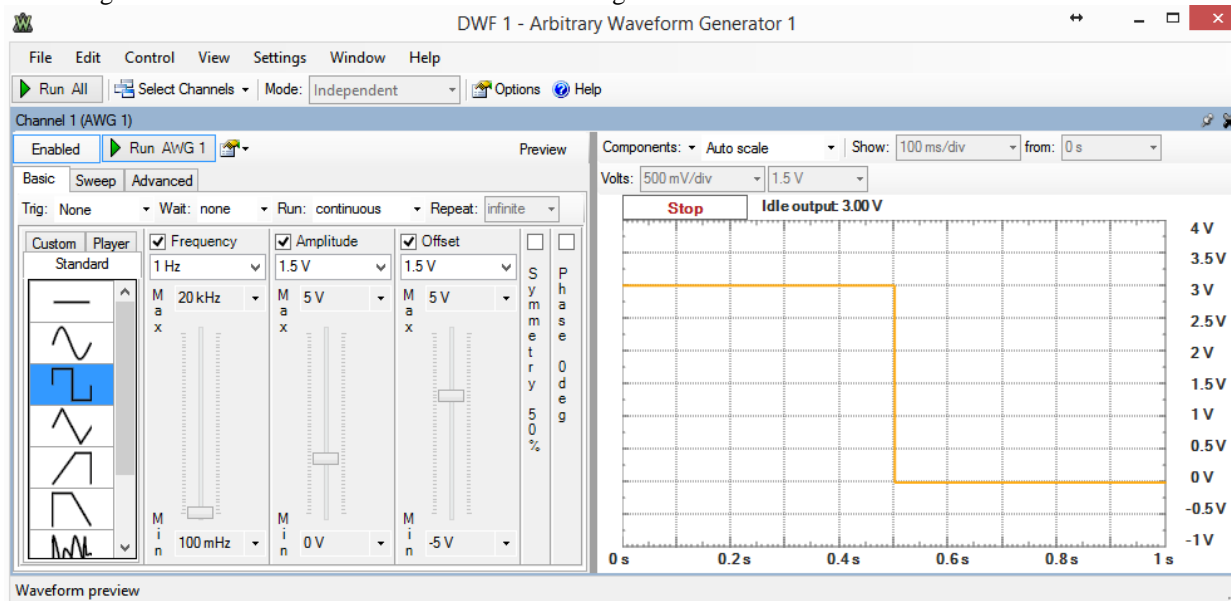

Figure B-2
- Set up the function generator so that it produces a train of square pulses at a frequency of 1Hz, with maximum voltage = 3V and minimum voltage = 0V. That is, the pulses are only positive. The function generator window should look like the one in Figure B-2 below.